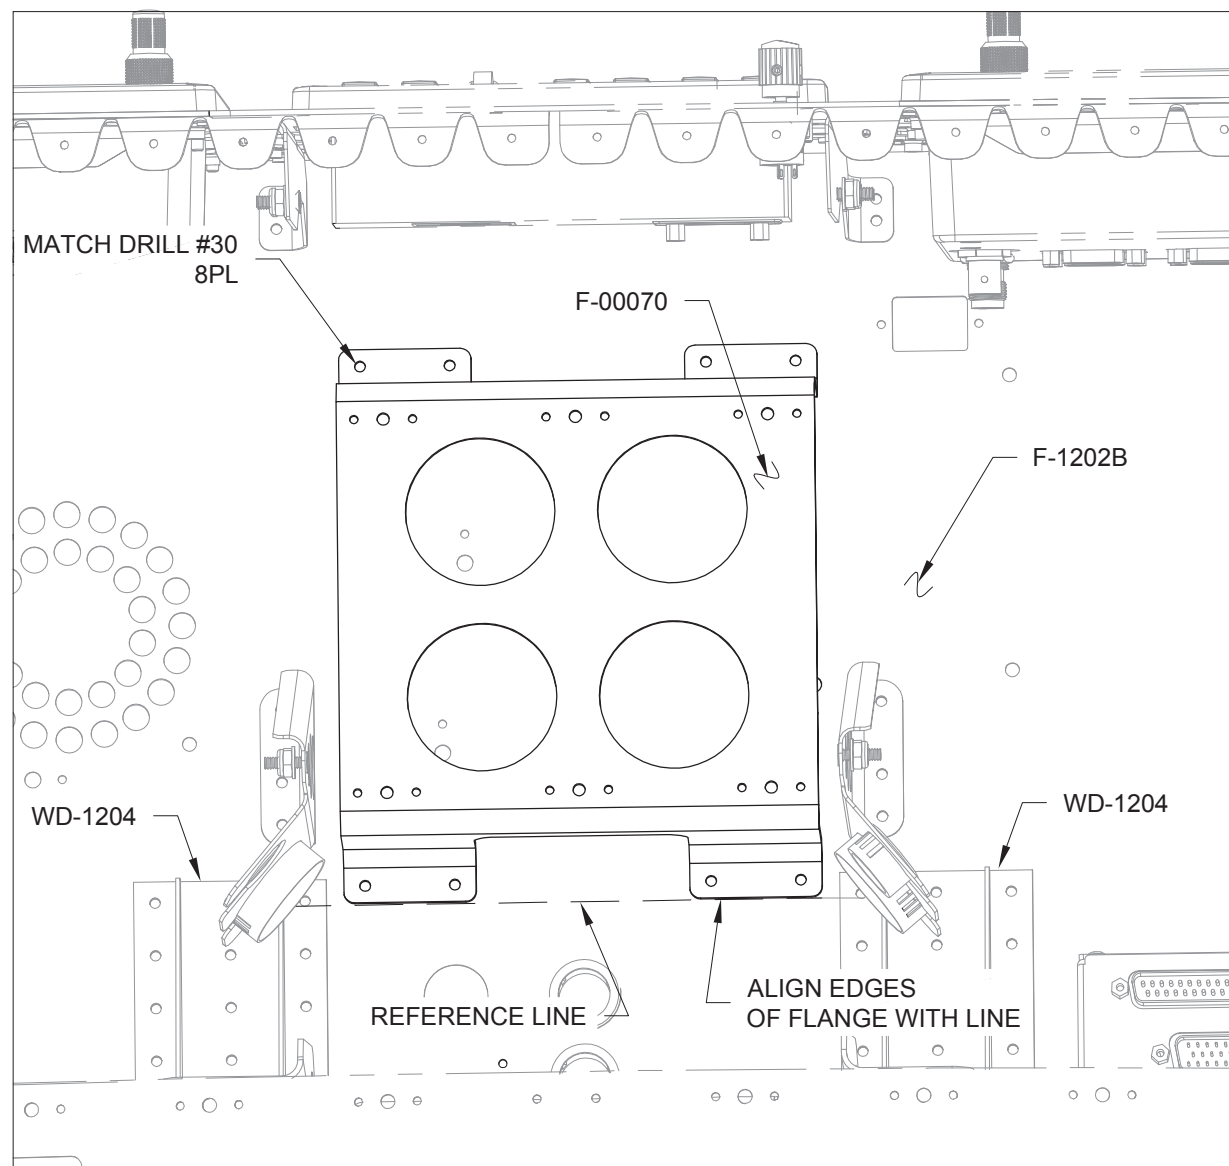

FIGURE 1: MATCH DRILLING THE PANEL BASE
Step 1: Place the F-00070 GDL 39R Bracket on the upper face of the F-1202B Panel Base. See Figure 1.
Step 2: Draw a reference line on the F-1202B Panel Base connecting two rivets as shown in Figure 1.